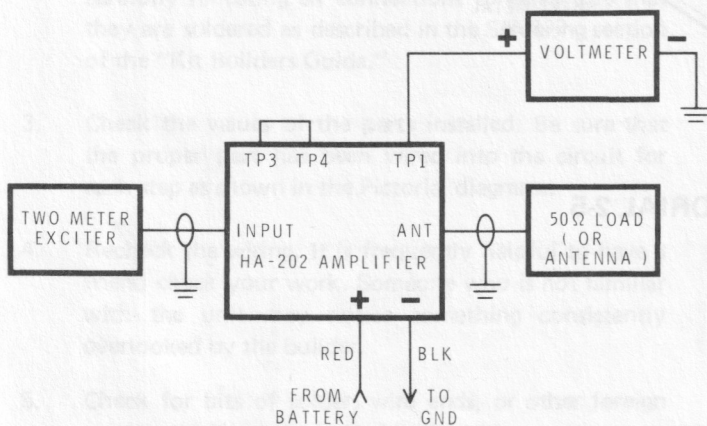

Figure 2-14
- ( ) Refer to Figure 2-14 and interconnect your equipment. Be sure to use RG-58A/U coaxial cable for all leads which carry RF.